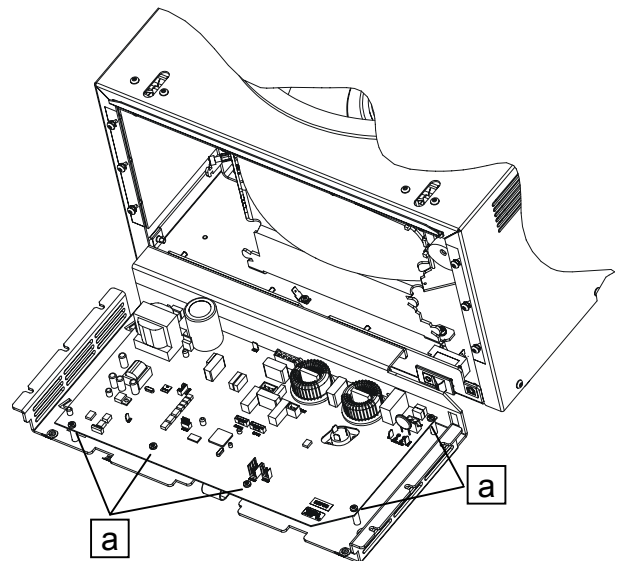

Fig. 13
- Unscrew the 5 fastening screws (Fig. 13, a) on the electronics (A1).